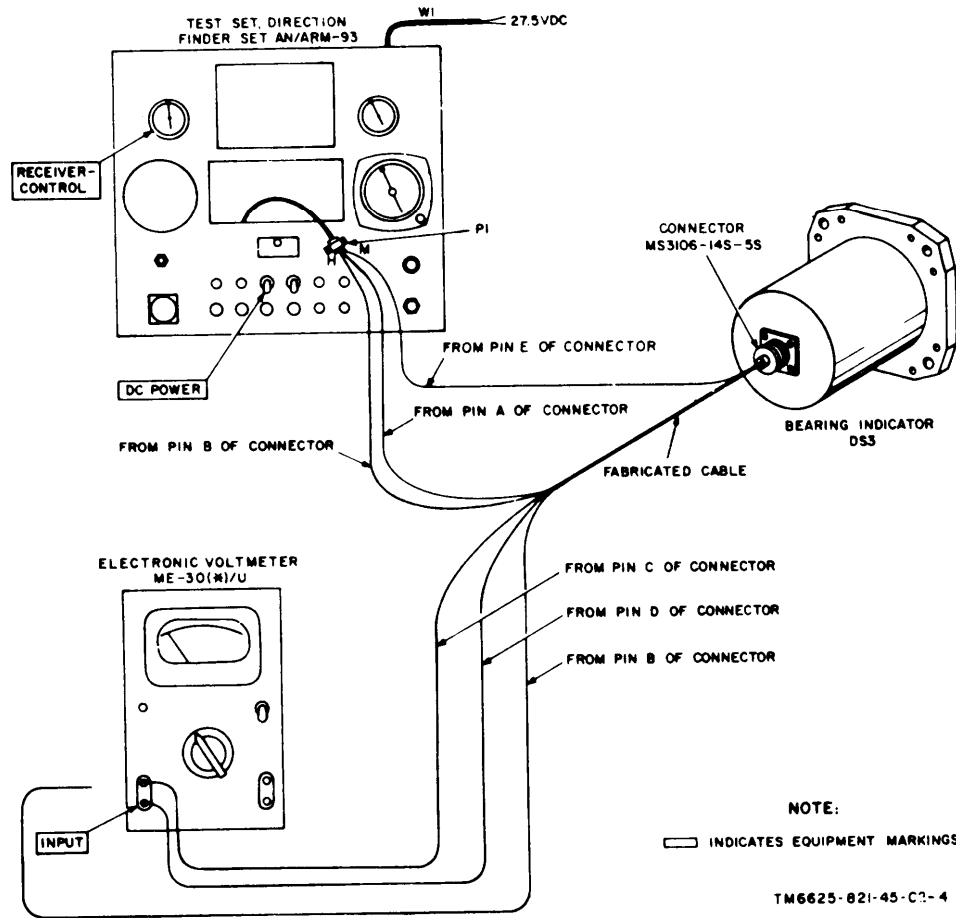

Figure 3-4. Test connections for BEARING INDICATOR adjustment.
(1) Set the DC POWER switch to OFF.
(2) Set the RECEIVER-CONTROL switch to CONTROL.
(3) All other switches may be set to any position.
e. Refer to figure 3-4, and connect the equipment as follows: